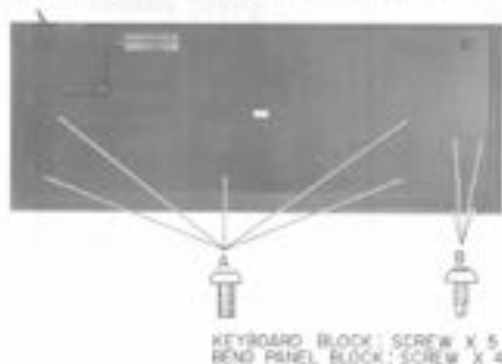

Fig. 2-3
### 2-2. How to dismantle the Keyboard Block and Bend Panel Block. (Refer to Fig. 2-3)
- 1) Remove the screws in group A (5 screws) for the Keyboard Block, and the screws in group B (4 screws) for the Bend Panel Block (Refer to Fig. 2-3)